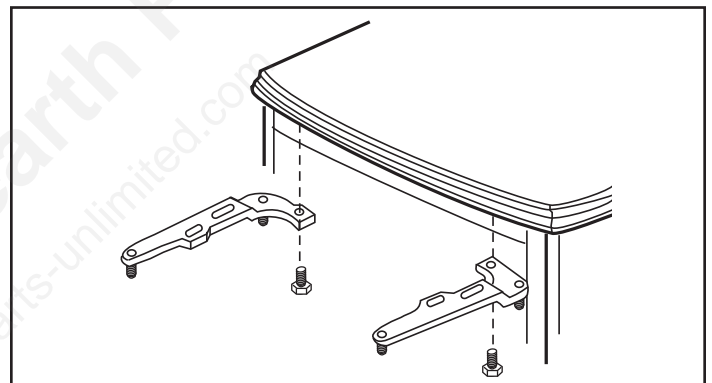

Figure 2 - Attach brackets to threaded holes in top plate.
2. Screw the flat brackets to the stove. Pass a 1/4"-20 x 1/2" hex-head cap screw up through each bracket and into the threaded hole in the stove's top plate. (Figure 2) Tighten the screws enough to secure the brackets, but keep them loose enough for the brackets to move slightly.